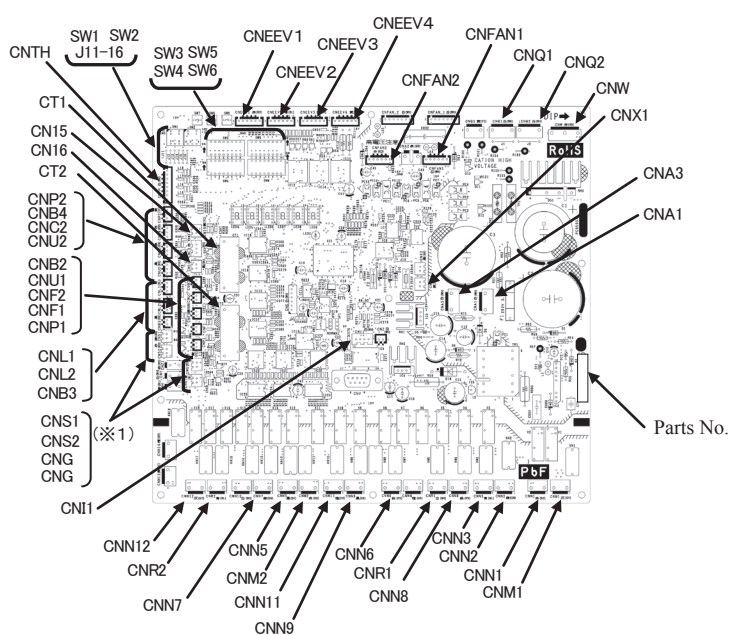

Fig.1 Parts arrangement
(Be sure to measure voltage (DC) and check that the voltage is discharged sufficiently. (Refer to Fig.1.))